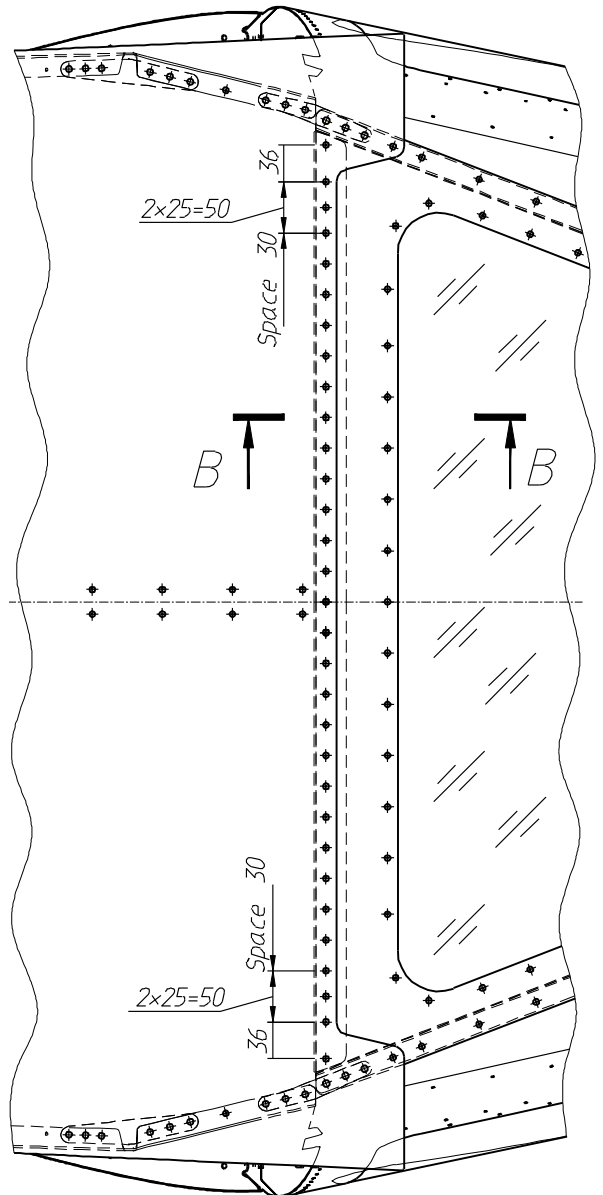

Fig.3
- 3.2) If number of the rivets (intervals between them) are as shown in Fig.3 and the rivets are not loosened, this repair work is not needed.
- 3.3.1) Mark and drill with $\varnothing 3.1$ mm drill bit the holes for additional rivets according to Fig.3.